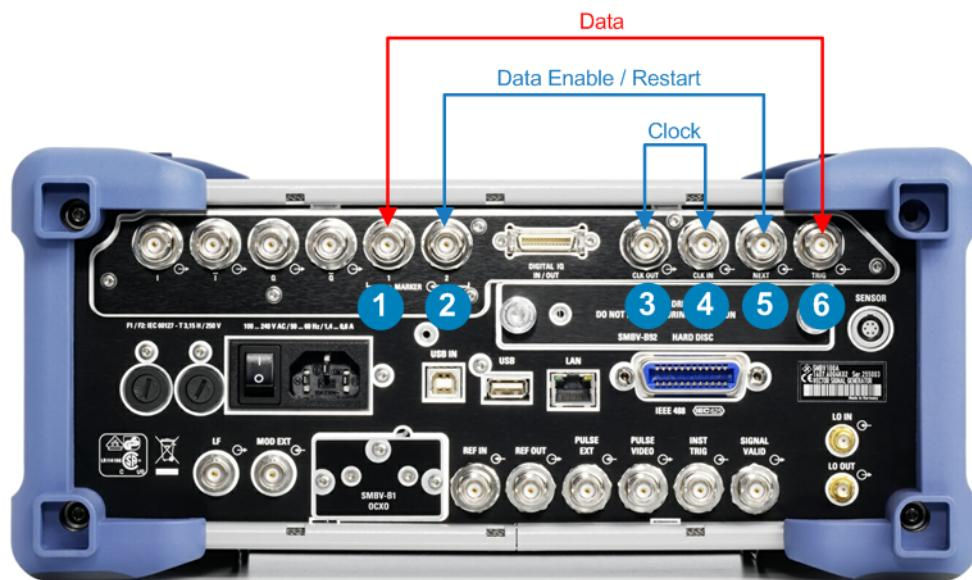

Figure 5-7: Test generator cabling
The test setup requires that you loop back the signals as shown in Figure 5-7.
- Remove the clock out connection (Figure 5-7, \(3\)).
- Remove the data connection (Figure 5-7, (6)).